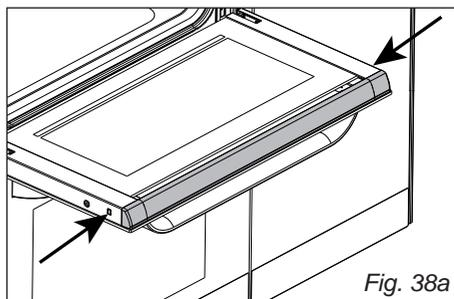
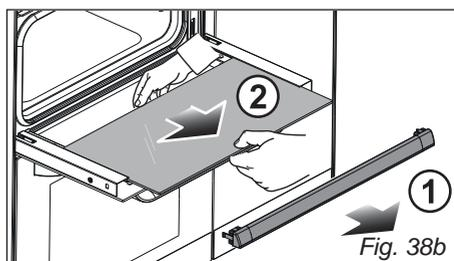

Fig. 38a
Fig. 38b
- Press the tabs on the sides of the glass retainer which is positioned at the top of the oven door (arrows in fig. 38a), then gently remove the retainer (arrow 1 in fig. 38b).
- Gently pull out the inner pane of glass (arrow 2 in fig. 38b).